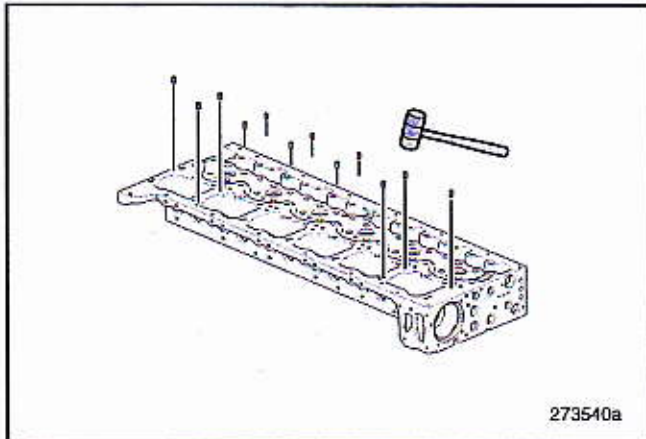

Figure 378 — Locating Pin Installation
4. Install 12 new locating pins from the parts kit at the cylinder head locations illustrated (Figure 378). Use a plastic mallet so as not to damage the locating pins.